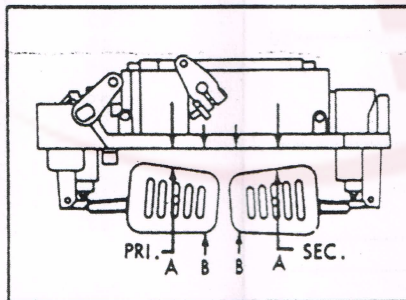

Figure 2
V. FLOAT DROP ADJUSTMENT. (See figure 2.)
- TYPE "A" ADJUSTMENT. Hold air horn upright with floats hanging by their own weight. Measure from center top surface of pontoons to air horn (gasket removed) as shown at "A" in figure 2. Refer to Adjustment Data Table for dimensions and adjust by bending stop tabs on float brackets.
- TYPE "B" ADJUSTMENT. Hold parts as described above and measure at location "B" figure 2. Refer to Adjustment Data Table for dimensions. Adjust as described above.